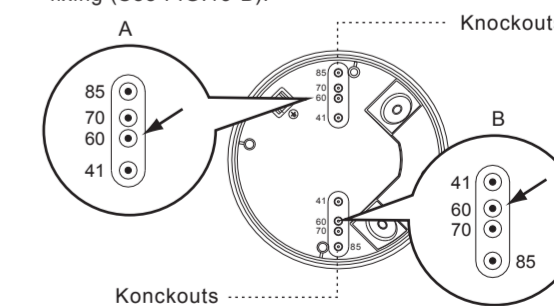

FIG.13-A
- 4.4.3.1 There are 4 pairs of knockouts with various distances from 41mm to 85mm on the enclosure can be selected for different mounting applications (See FIG.13-A). Select two same figures on both ends for the corresponding distance for fixing (See FIG.13-B).